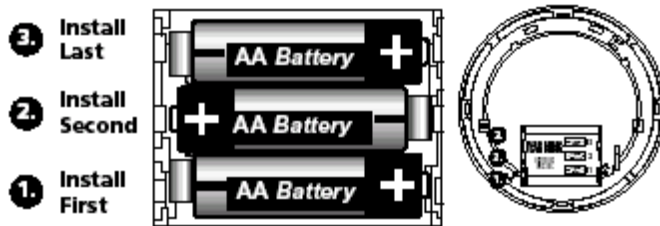

Figure 5
- Batteries must be installed in the sequence shown (see Figure 5). If batteries seem difficult to install, they're not being installed in the proper sequence.